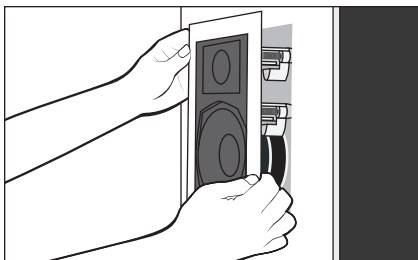

Figure 9a.
a) Push speaker assembly through hole until flange is flush with the wall (Fig. 9a)